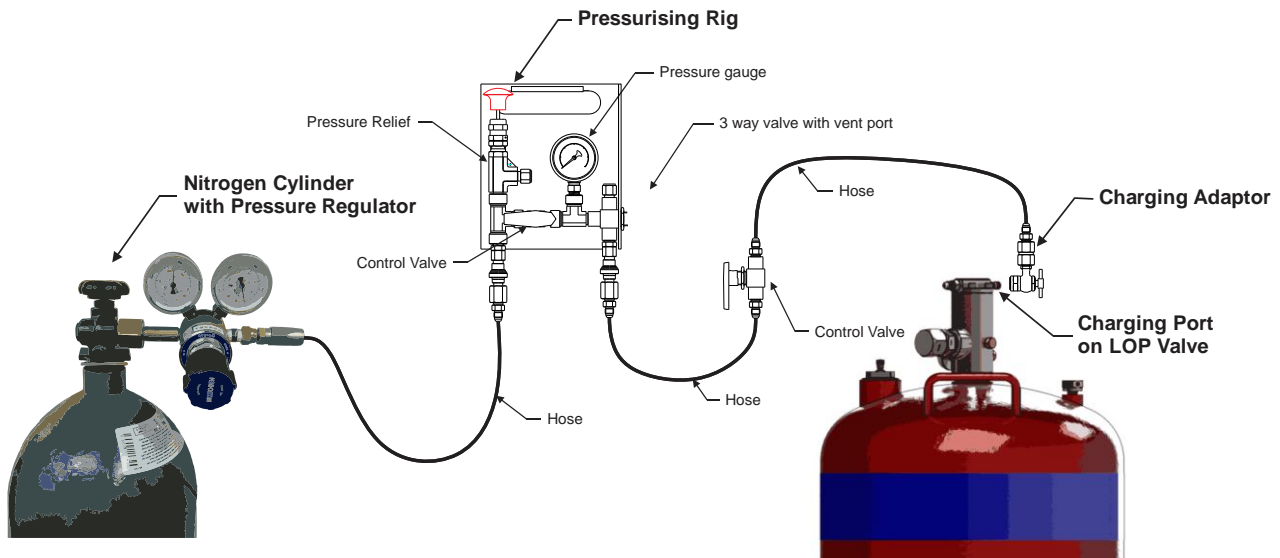

Figure 8 –Typical Pressurising Rig
3. Connect a regulated source of nitrogen through an approved charging rig (refer Figure 8) to one of the system charging points: